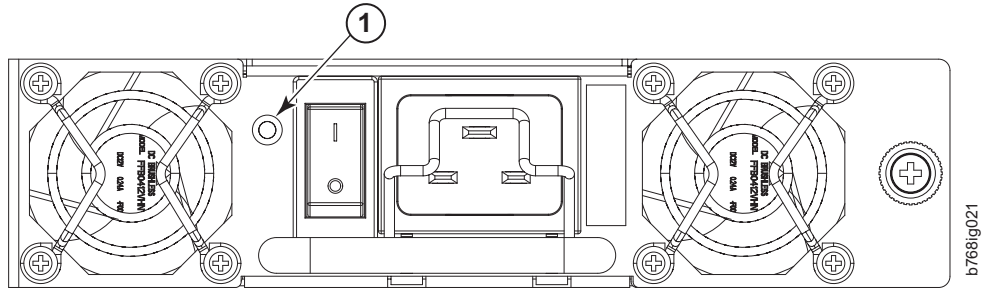

Figure 26. Power supply LEDs
1. Check the LED indicator on the power supply (see Figure 26 on page 75). The LED patterns may temporarily change during POST and other diagnostic tests; for information about how to interpret the LED patterns, see Table 10 on page 75.